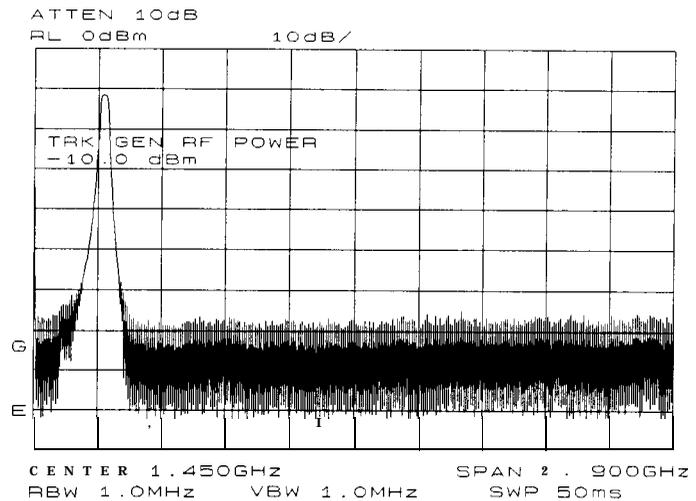

Figure 2-31. Tracking-Generator Output Power Activated
- Put the sweep time of the analyzer into stimulus-response auto-coupled mode by pressing MORE 1 OF 3 , then SWP CPL SR SA until SR is selected. In stimulus-response mode, the auto-coupled sweep times usually are much faster for swept-response measurements (see Figure 2-31).